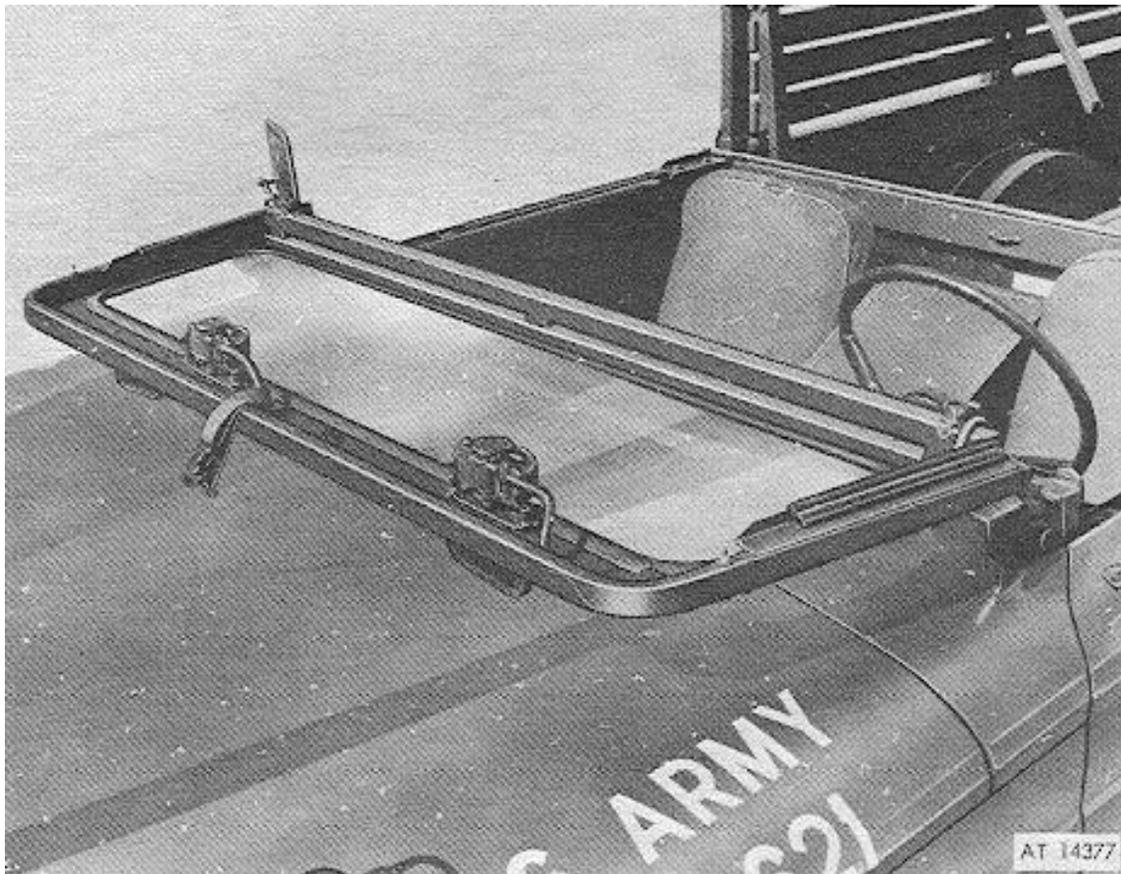

Figure 16. Windshield lowered.
6. Release the clamps at the lower corners of the windshield. Lower windshield. Lower windshield onto hood and secure with one 1" x 18" strap. See figure 16.